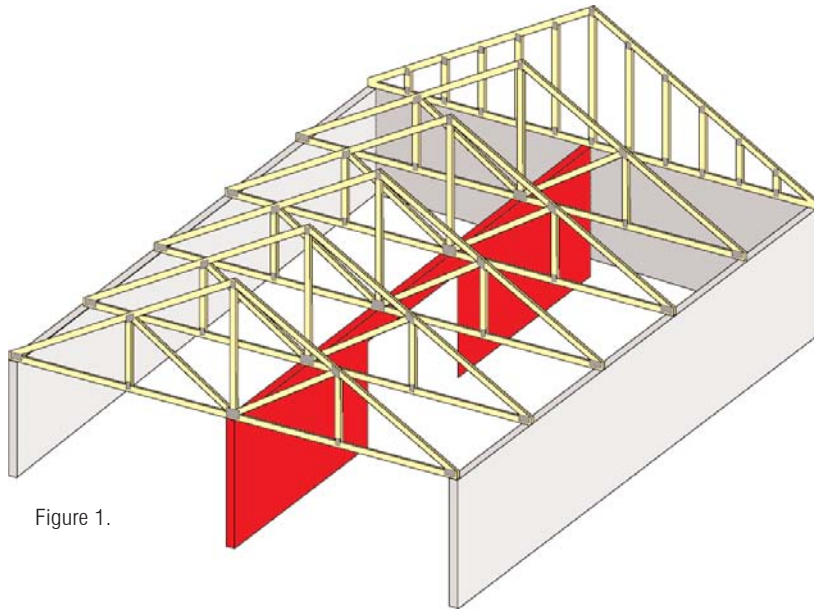

Figure 1.
1. Is the wall running lengthwise down the middle of the house? (See Figure 1.)